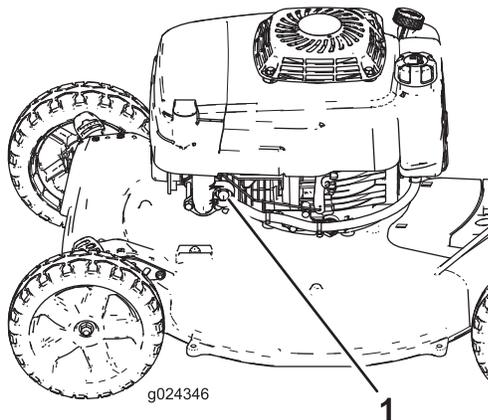

Figure 14
2. Firmly push in the primer (Figure 14), holding the primer bulb in for 1 second.